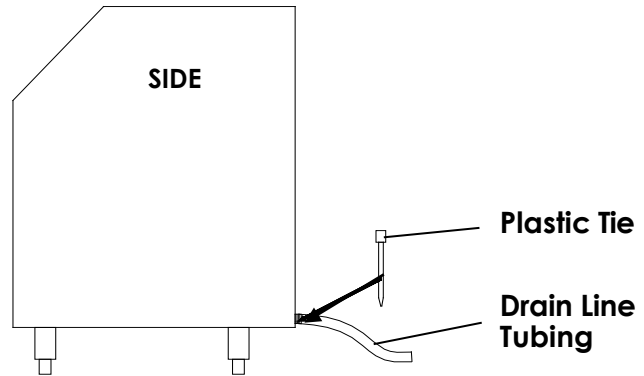

Fig.4
2. Use hose clamp or supplied plastic ties to secure drain line tubing and provide a liquid tight seal (Fig.4). Note: A floor drain should be near final installation location as the drain line must slope directly to the floor drain sump without any flow blockages.